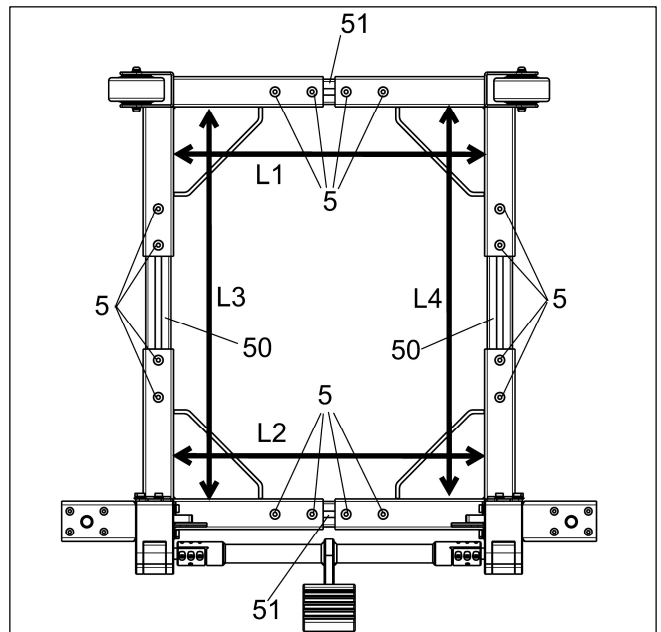

Fig.9
e. Loosen the fasteners "5" to adjust the length of the corner brackets so that the length at the arrows is 1/4"~1/2" longer than the machine base; then tighten all fasteners "5". (see Fig.9)
1. Ensure that the distance L1 is roughly equal to L2 and L3 is roughly equal to L4 as seen in Fig.9. If not, repeat Step E until they are equal.